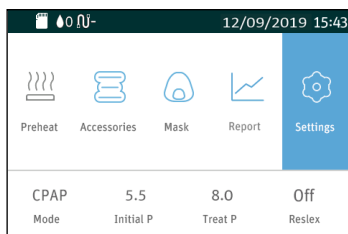

Fig. 15-1
(1) Insert the Cellular Module into the device, and turn on the device. The device screen displays the Main Screen shown in Fig. 15-1.